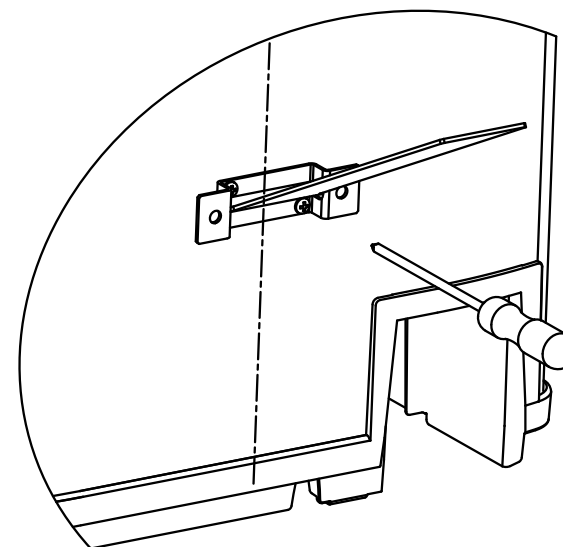

Fig.1
- 2.7 The bracket bolted to the CASE BACK of the Supreme uses the M10 x 20 set screws (2 off) supplied. The small, slotted, CASE BACK bracket is secured in position with No. 8 x 1/2" screws (supplied). Note orientation and slot in the case anchor strap before fitting screws (Fig. 1).